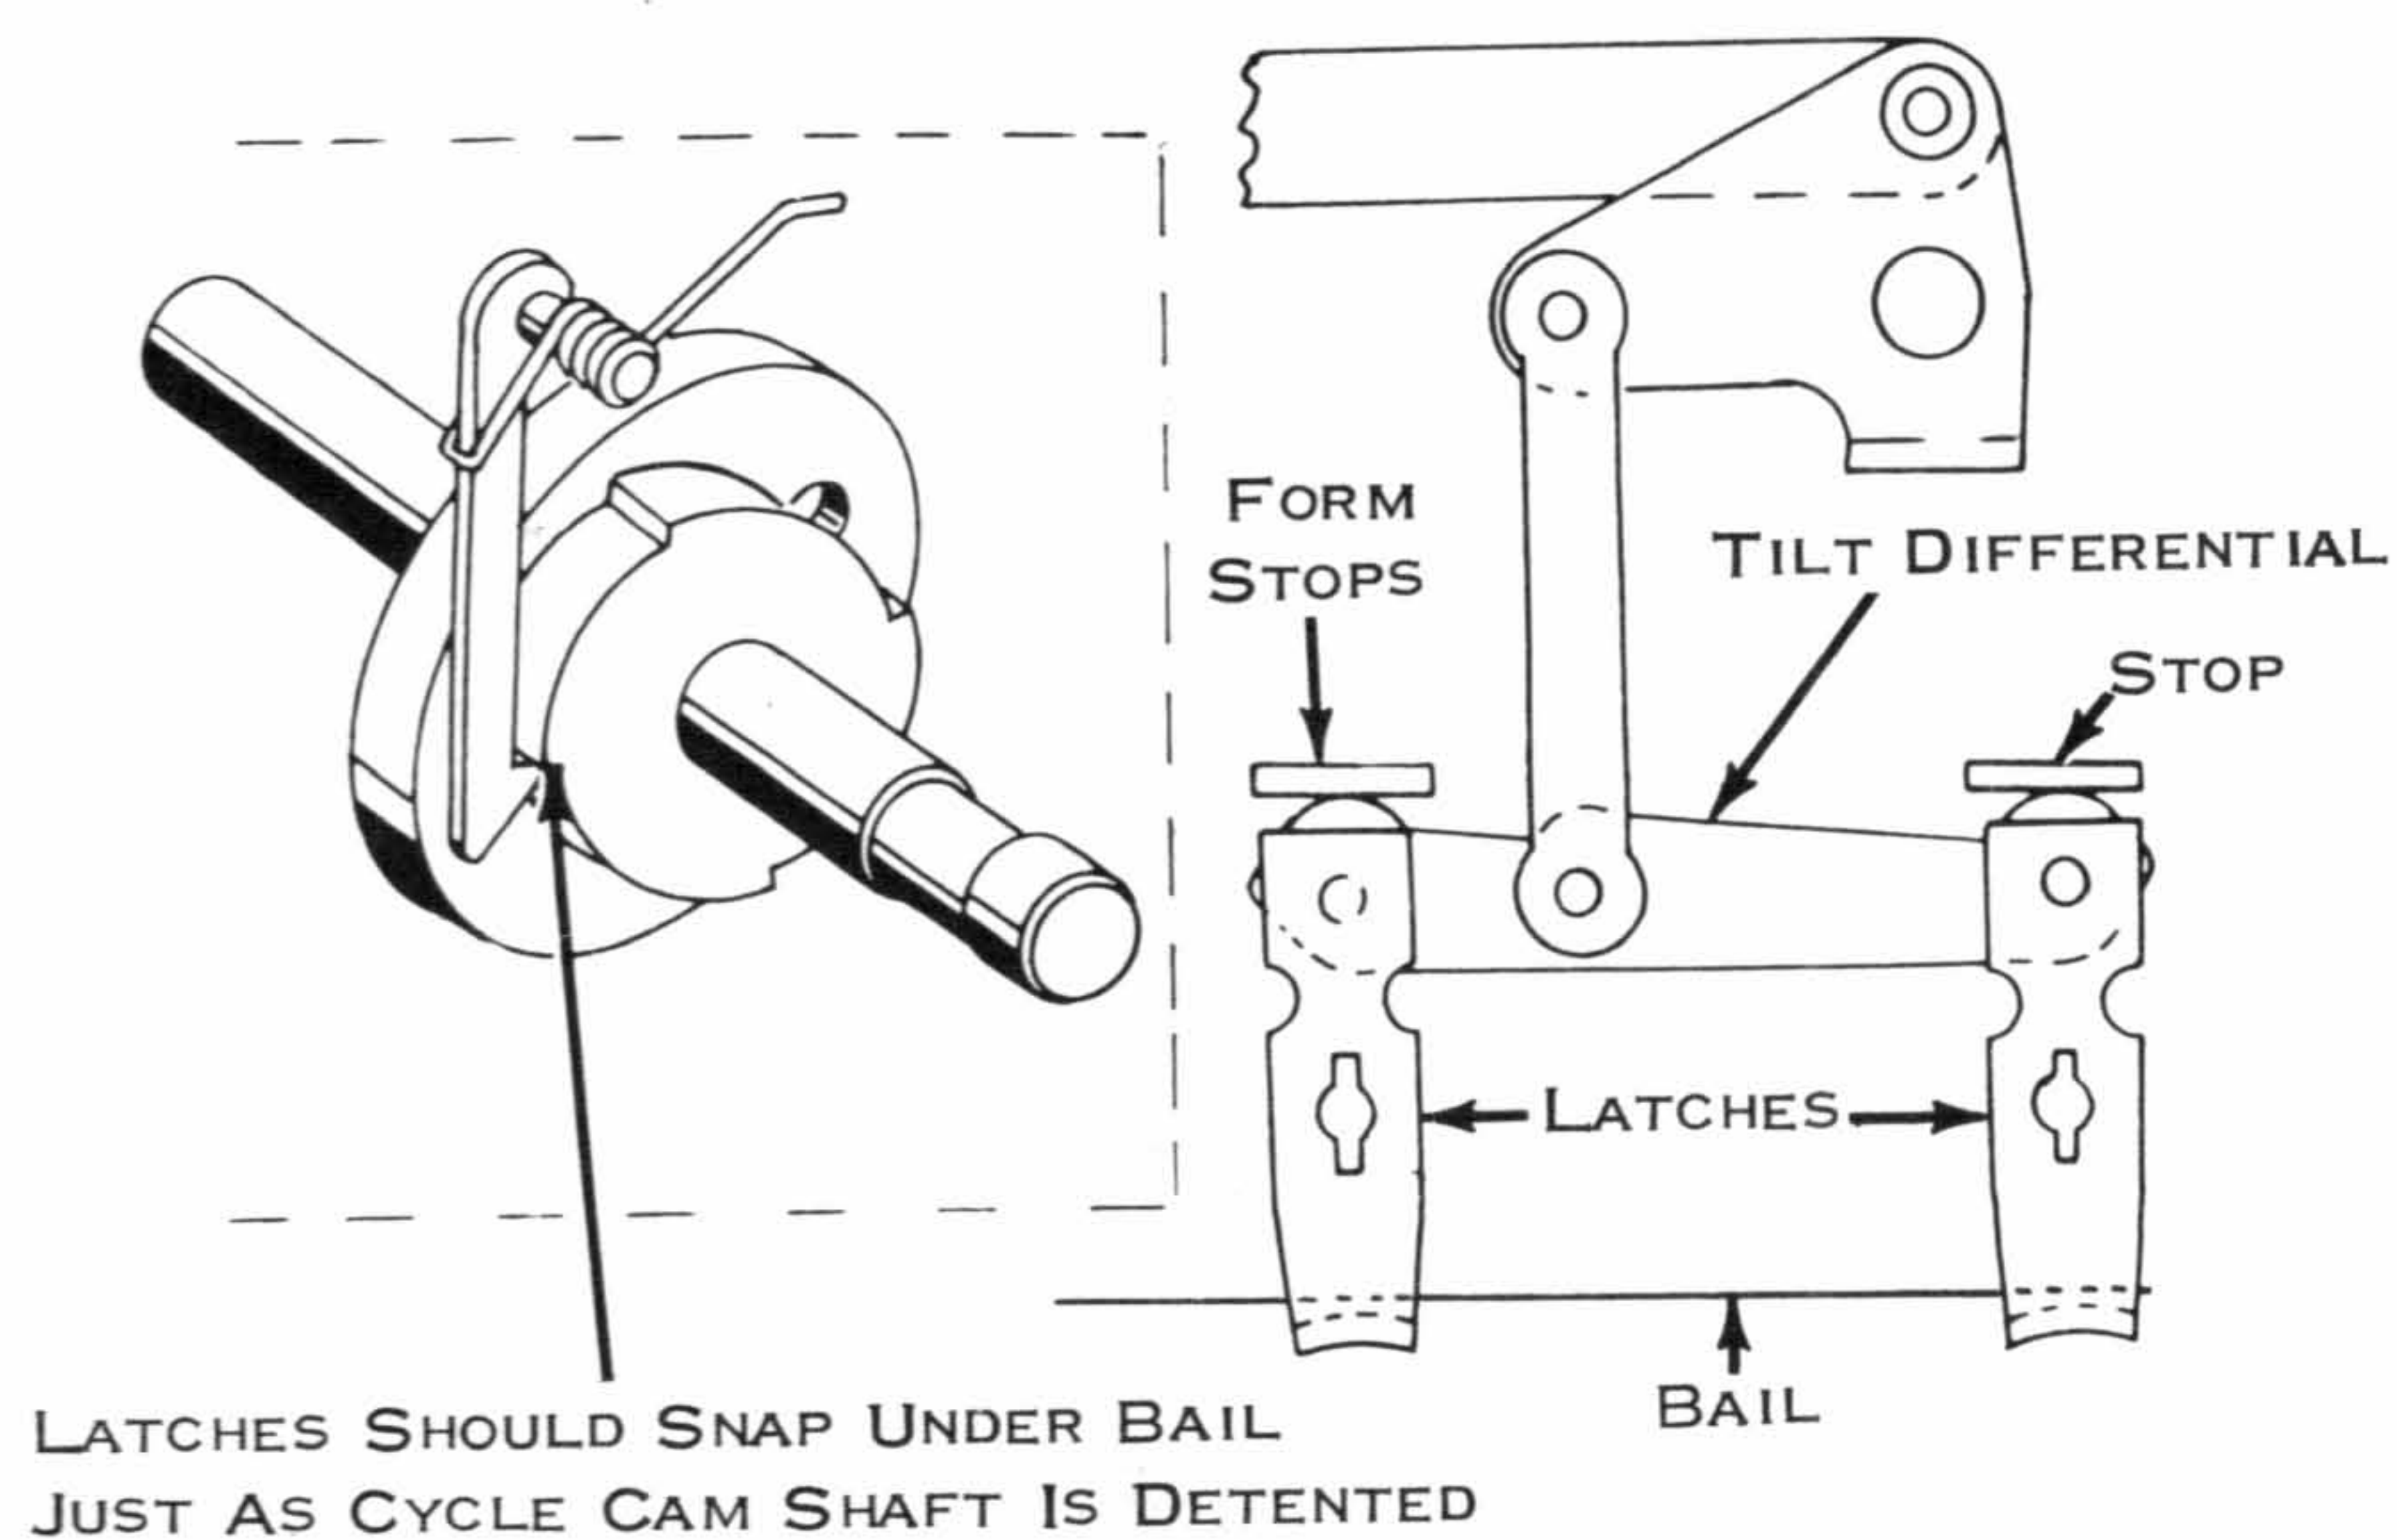

Figure 70. Tilt Latch Stop Pad
1. Tilt Latch Clearance (Fig. 70) - Both tilt latches must reset simultaneously just as the cycle clutch check latch drops into the notch of the check ratchet. Form the stops up or down so that this condition exists.